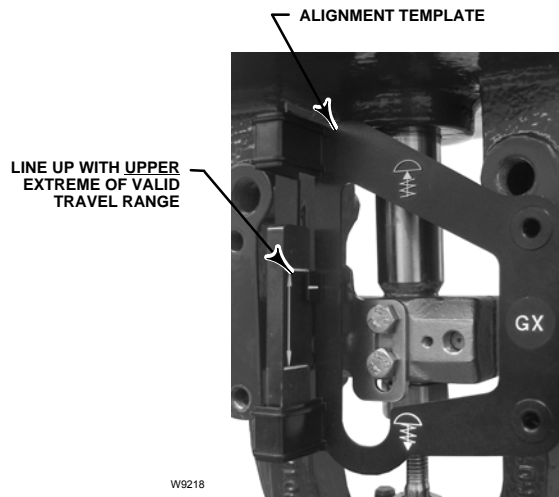

Figure 2-10. Air-to-Open Fisher GX Magnet Array Alignment
- **For air-to-open GX actuators** vertically align the magnet array so that the center line of the alignment template is lined up as close as possible with the upper extreme of the valid travel range on the feedback array. See figure 2-10.